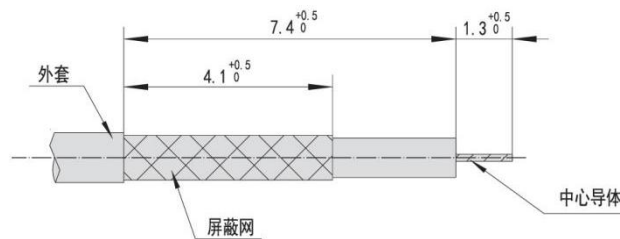

Figure 2.6
① As shown in Figure 2.6, peel the cable and the end must be cut clean and at a right angle to the axial surface of the cable. When cutting, the cable must not deform.